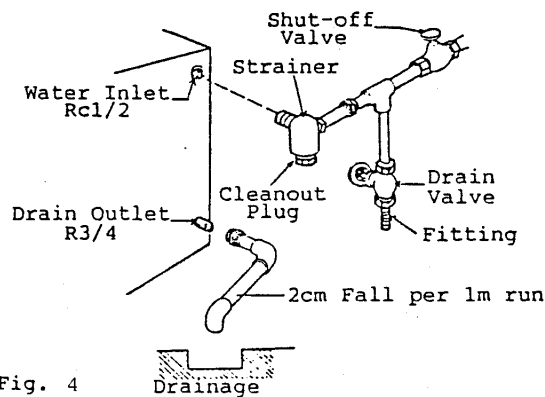

Fig. 4
6. In some cases, a plumbing permit and services of a licensed plumber will be required. (See Fig. 4)